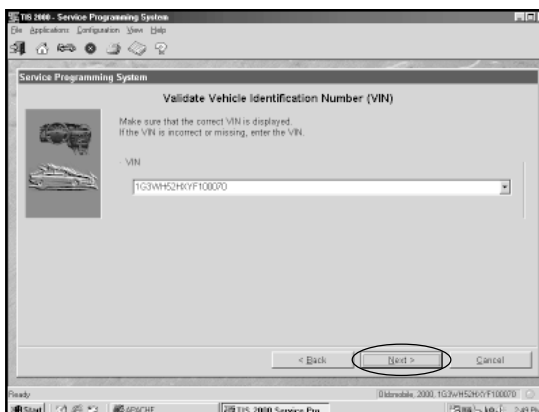

Figure I-45, Validate Vehicle Identification Number (VIN) screen
5. Pass-Thru will display the VIN (Figure I-45) stored in the control module (or if programming a new control module, enter the correct VIN of the vehicle to be programmed). **Select Next.**